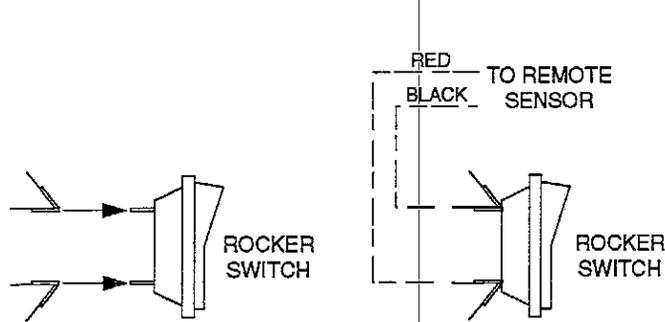

FIGURE 7
5. To connect the remote control receiver to the rocker switch, use the 2 - Piggyback Disconnects provided. Disconnect the wire from the rocker switch. Place the 2 - Piggyback Disconnects on the rocker switch. Re-connect the original wires to the rocker switch. Now you are ready to connect the 2 - wires from the remote control receiver to the rocker switch. See Figure 7.